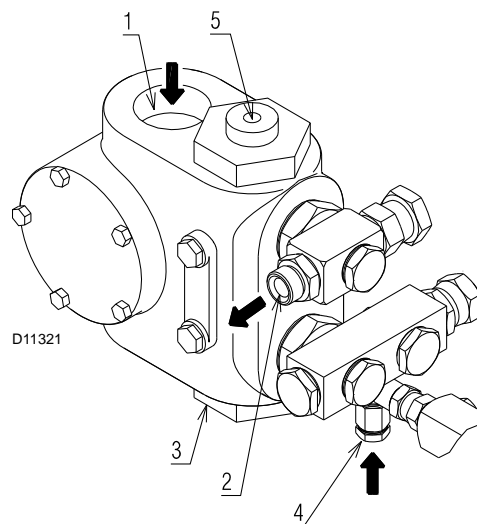

Fig. 23
- In order for self-priming to take place, the screw 4) on the pump (Fig. 23) must be loosened to bleed off the air contained in the suction line.
If the pump has been drained, fill it with fuel through the opening on the vacuumeter 3)(Fig. 23) prior to starting; otherwise, the pump will seize.
Key (Fig. 23)